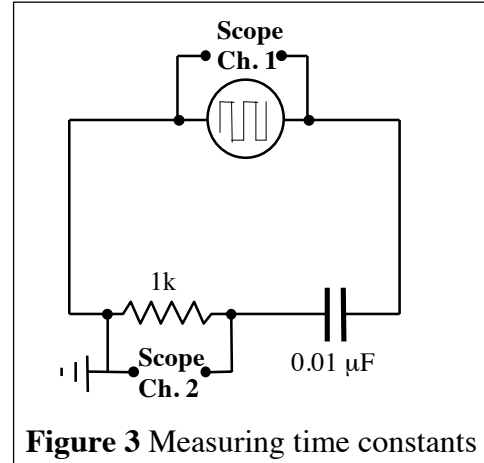

Figure 3 Measuring time constants
- Connect up the  $RC$  circuit of figure 3, and apply a square-wave of frequency about 50 kHz. Use the 'scope to observe, on channel 1, the voltage applied to the capacitor and, on channel 2, the current that flows into or out of the capacitor. Remember, the 'scope does not measure current directly, so instead measure the voltage across a 1 k $\Omega$  resistor. Just as previously, the positive-going and negative-going edges of the waves charge up the capacitor, which then discharges through the resistor  $R$  (the parallel input resistance of the 'scope is much too large to have any effect).